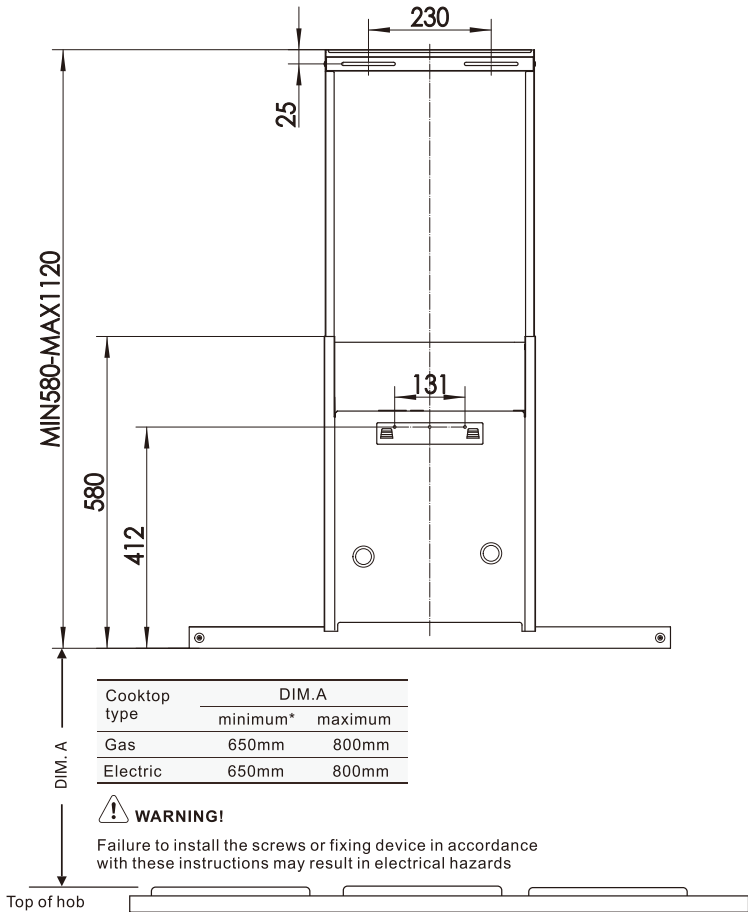

Fig6
- Mark the location for flue cover wall mounting brackets and cooker hood mounting points above the hood base as the reference point (Fig. 6).